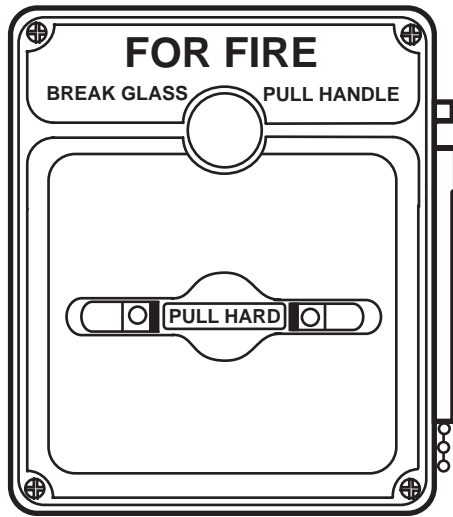

Figure 7. Interior FM-200 Manual Pull Box
The engine room and Auxiliary Machine Space (AMS) 1 are fitted with a FM-200 fire suppression system. The system is a manually actuated, stand-alone, total flooding fire suppression system. The system is capable of extinguishing Class A, Class B, and Class C fires when properly deployed. The system consists of two 600 lb (272 kg) FM-200 cylinder assemblies (figure 5, item 1), a 200 lb (91 kg) FM-200 cylinder assembly (figure 6, item 1), control heads (figures 5 and 6, item 2), discharge nozzles (figures 5 and 6, item 3), and FM-200 pull boxes (figures 7 and 8).